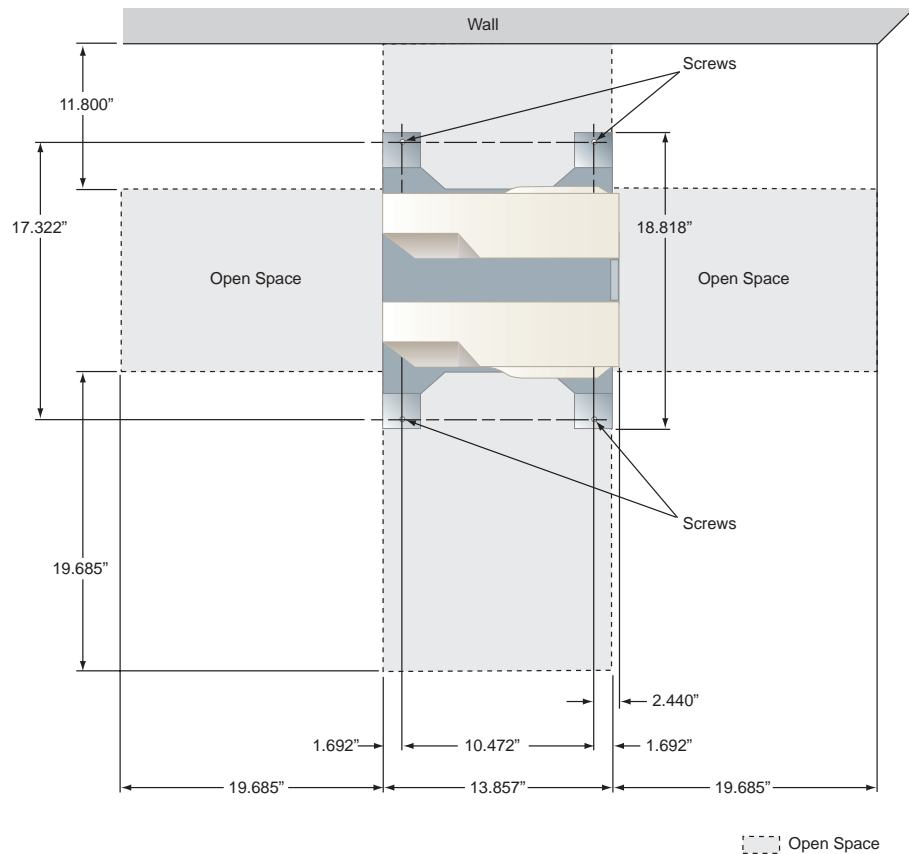
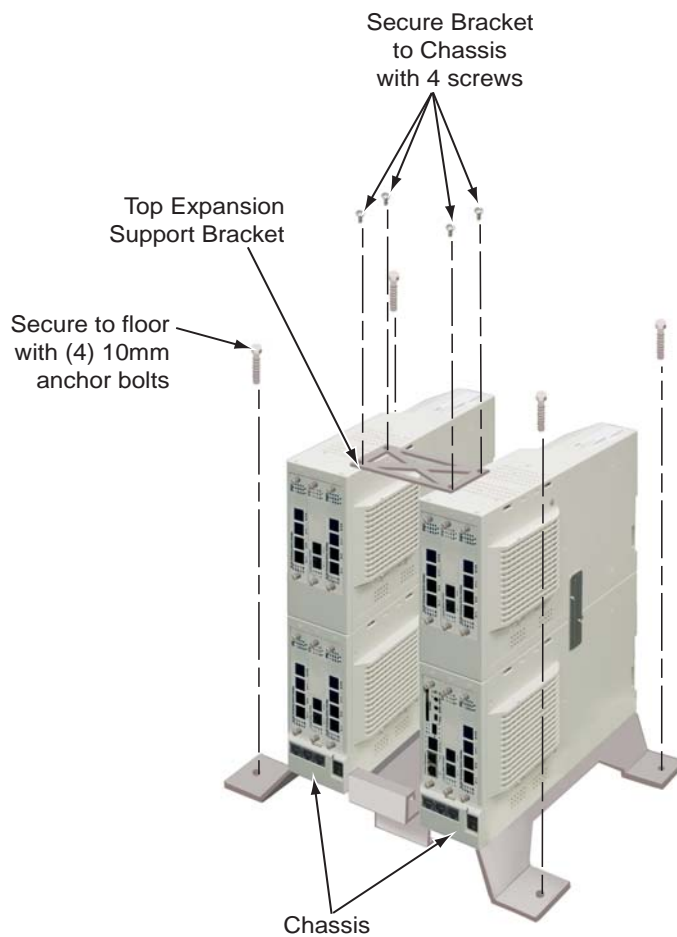

Figure 1-84: CHASSIS PLACEMENT
Figure 1-87: ATTACH THE CHASSIS TO THE FLOOR
1.7.9 Securing Two Chassis-B/Es to the Floor (Figure 1-84 - Figure 1-87)